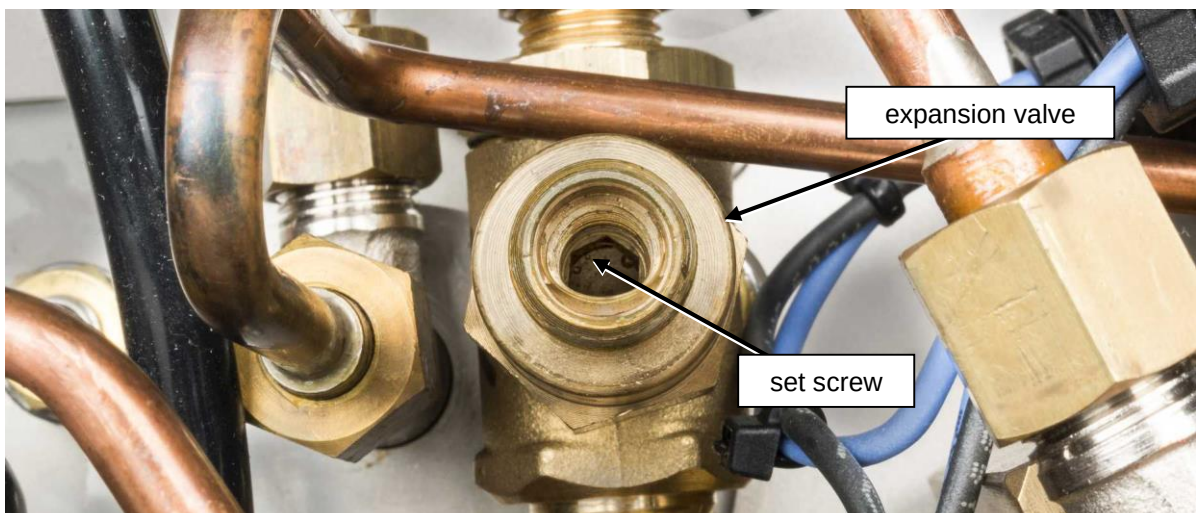

Figure M 9. Showing detail of expansion valve and hexagonal opening in set screw. Drain hose is removed from valve.
6. If opening pressure is lower than 12 Bar, use a 5 mm Allen key to turn the set screw inside the expansion valve clockwise (see *Figure M 9*).
10. Turn set screw inside the expansion valve (see *Figure M 9*) counter-clockwise until the valve starts to drip. Have a towel ready to pick up the spills.